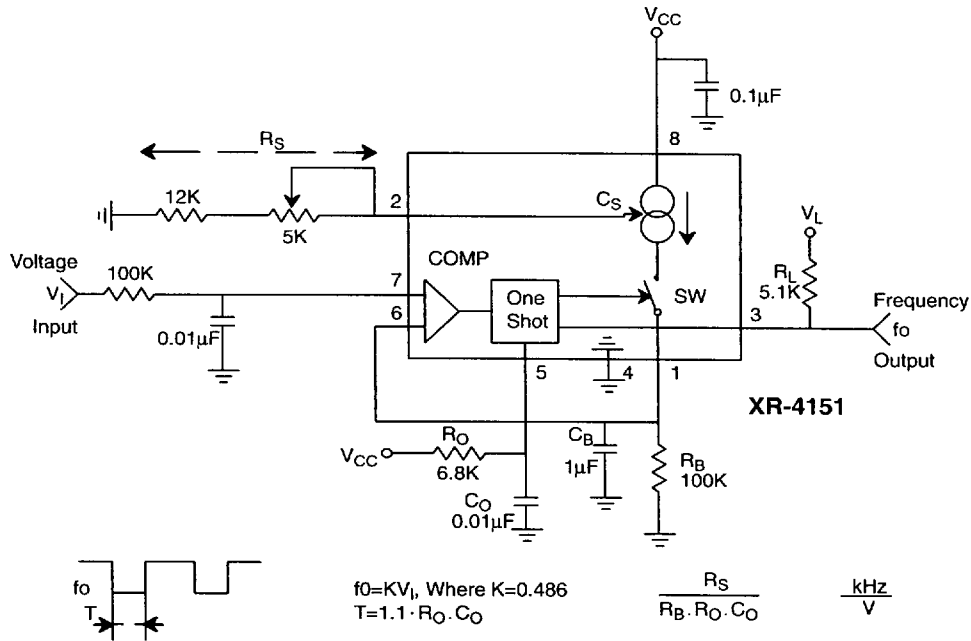

Figure 2. Voltage-to-Frequency Converter
In this application, the XR-4151 functions as a stand alone voltage-to-frequency converter operating on a single positive power supply. Refer to the functional block diagram and *Figure 2*, the circuit connection for single supply voltage-to-frequency conversion. The XR-4151 contains a voltage comparator, a one-shot, and a
Figure 2 shows the simplest type of VFC that can be made with the XR-4151. The input voltage range is from 0 to +10V, and the output frequency is from 0 to 10kHz. The full scale frequency can be tuned by adjusting R_S , the output current set resistor. This circuit has the advantage of being simple and low in cost, but it suffers from inaccuracy due to a number of error sources. Linearity error is typically 1%. A frequency offset will also be
introduced by the input comparator offset voltage. Also, response time for this circuit is limited by the passive integration network $R_B C_B$. For the component values shown in Figure 2, response time for a step change input from 0 to +10V will be 135msec. For applications which require fast response time and high accuracy, use the circuit of Figure 3.
4. Avoid stray coupling between pins 5 and 7; it could cause false triggering. For the circuit of *Figure 2*, bypass pin 7 to ground with at least $0.01 \mu\text{F}$. This is necessary for operation above 10kHz.
3. a) For the circuit of *Figure 2* make $C_B = 10^{-2} [1/f_0]$ Farads.